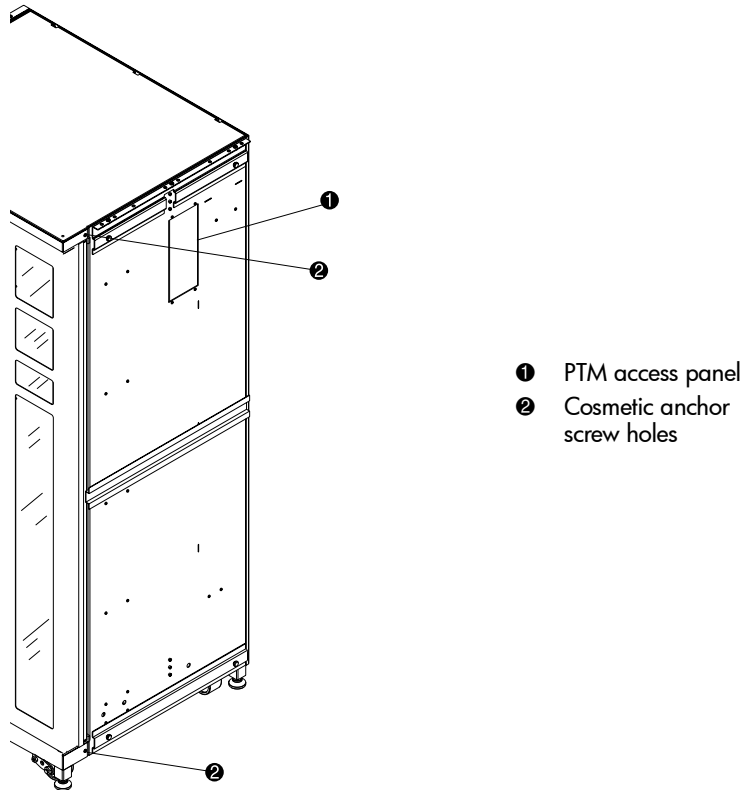

Figure 3: Cosmetic anchor screw hole locations
4. Remove the PTM access panels ❶ on the left and right sides of the libraries (see Figure 3).
5. On each library, remove the existing screws (❷ Figure 3) and install four new screws (P/N 0615079) in the two libraries to be connected. Do not tighten, leave one-quarter inch clearance between the SEM washer and the trim pieces.